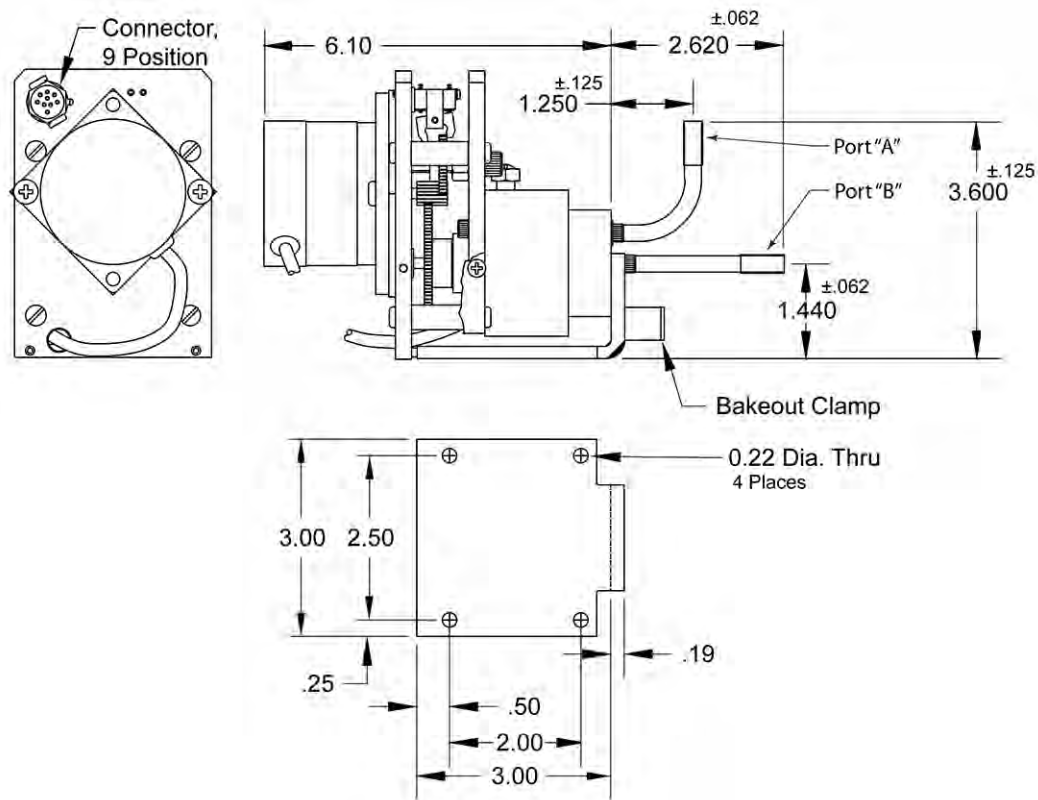

Figure 3-1: Dimensions of the Series 245 Pressure/Flow Control Valve
- See Figure 3-1 in the Specifications Chapter.